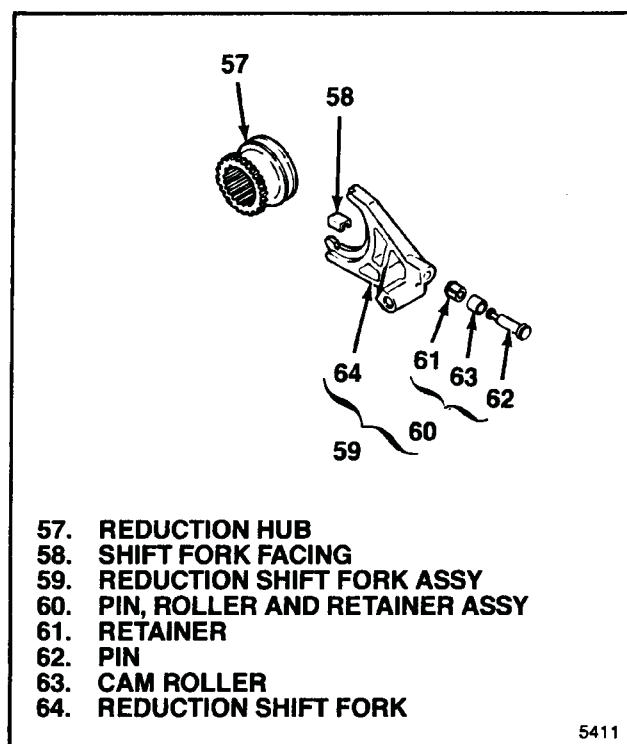

Figure 3-8. Reduction Shift Parts
- Remove four bolts (46) and retainer (47). Slide rear pump cover (48) off output shaft (55).
- Loosen hose clamp (49) and separate hose coupling (50) from pump housing (51). Slide pump housing off output shaft (55).
- Remove hose clamp (49), hose coupling (50) and strainer (56).
- Remove two pump pins (52) and spring (53) from output shaft (55).
- Slide front pump cover (54) off output shaft (55) and remove output shaft.
**3-13. REMOVAL OF REDUCTION SHIFT PARTS.** From remaining transfer case assembly (57 through 111), remove the following (see figure 3-8):
- Remove reduction hub (57) and reduction shift fork assembly (59) from transfer case.
- Remove two facings (58) from shift fork assembly (59).
- Disassemble fork assembly (59) only if parts replacement is required. Cut plastic retainer (61) to remove, freeing pin (62) and cam roller (63).